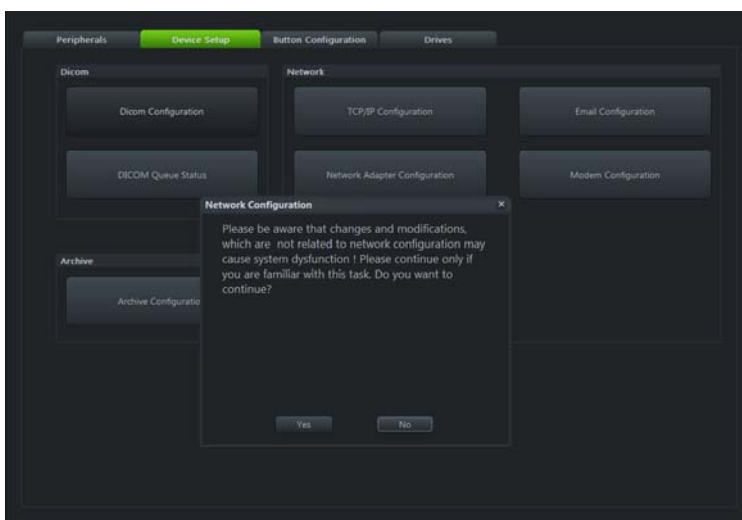

Figure 3-78 Network Configuration
- 5.) Click the **WLAN Configuration** button; see Section Figure 3-78 on page 3-75
- 3.) Click the **WLAN Configuration** button; see Section Figure 3-78 on page 3-75